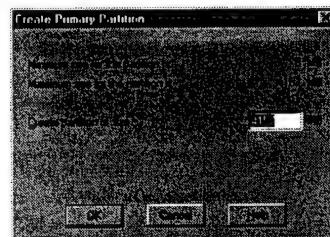

Fig. 6 Partition creation dialog box
2. When [Create] is clicked on the [Partition] menu, the partition creation dialog box shown in Fig. 6 appears. Click [OK].